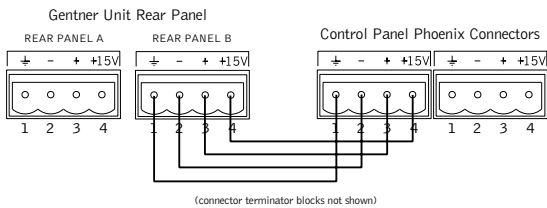

Figure 3. RS-485 Phoenix Connector
Step 1 Ensure you received a fascia plate; a Control Panel assembly with mounting bracket and two RS-485 Phoenix four-pin connectors; two connector terminator blocks; a faceplate; two flat HD screws; two pan-head screws; and an electrical wall box. Refer to Figures 3, 4, and 5 for depictions of these parts. If any parts are missing, please contact Gentner.
Step 4 Plug a connector terminator block into one of the XAP 800's Remote Panel connectors. Next, connect a Cat 5 twisted-pair cable to the connector terminator block. Referring to Figure 3, use one twisted wire pair for the center - and + connections (pins 2 and 3) and the other twisted pair for the ground and +15V connections (pins 1 and 4). Failure to do so can result in incorrect control and status due to crosstalk.